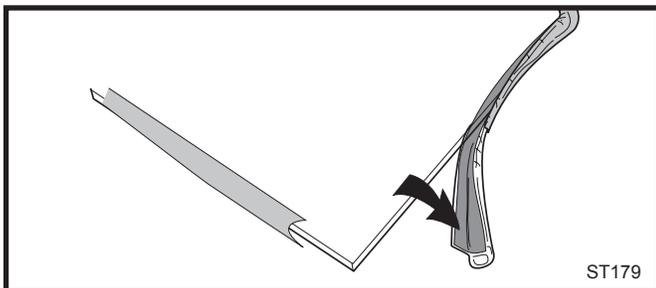

Fig. 39 Wrap the gasket material around the outside edge of the glass.
3. Starting on a long edge, remove about 6" of the protective paper strip and apply the flat adhesive face of the gasket around the outside-facing edge of the panel. Continue around the panel, applying a bout 6" at a time and being careful to not stretch the material. Do not overlap the gasket ends. (Fig. 39)